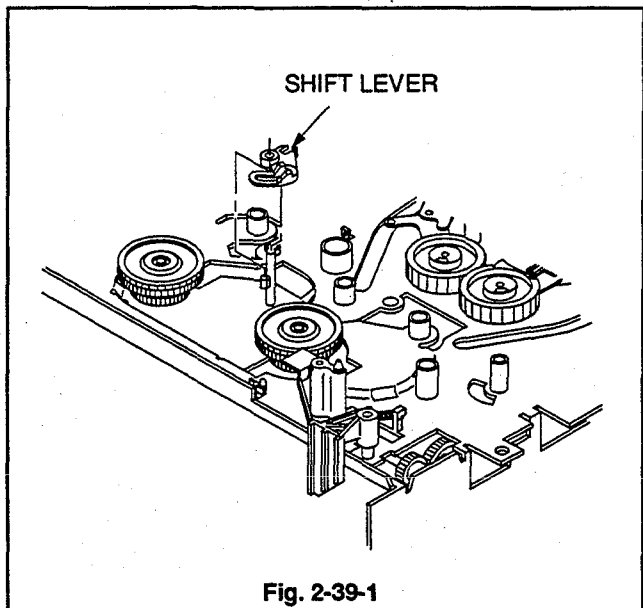

Fig. 2-39-1
1. Remove the SHIFT LEVER shown in Fig. 2-39-1.
2. Install the SHIFT LEVER shown in Fig. 2-39-1.